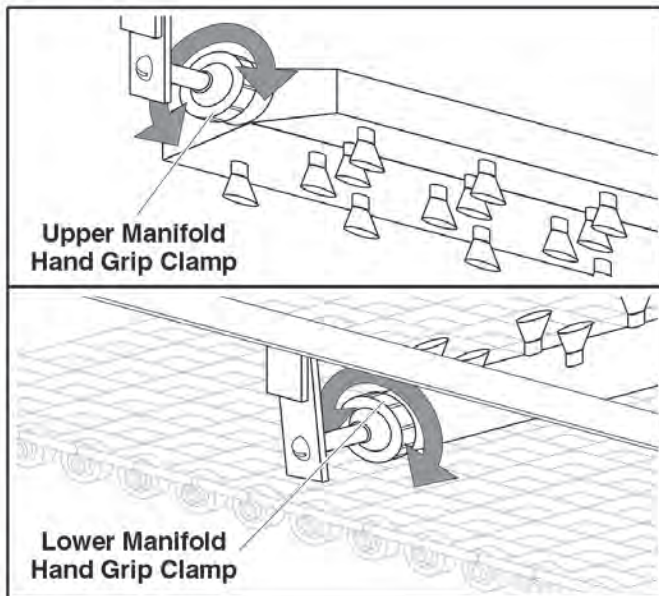

Figure 12
- b. Unscrew the Manifold Hand Grip clamp to loosen the Scrapper Spray Manifold (Figure 12).